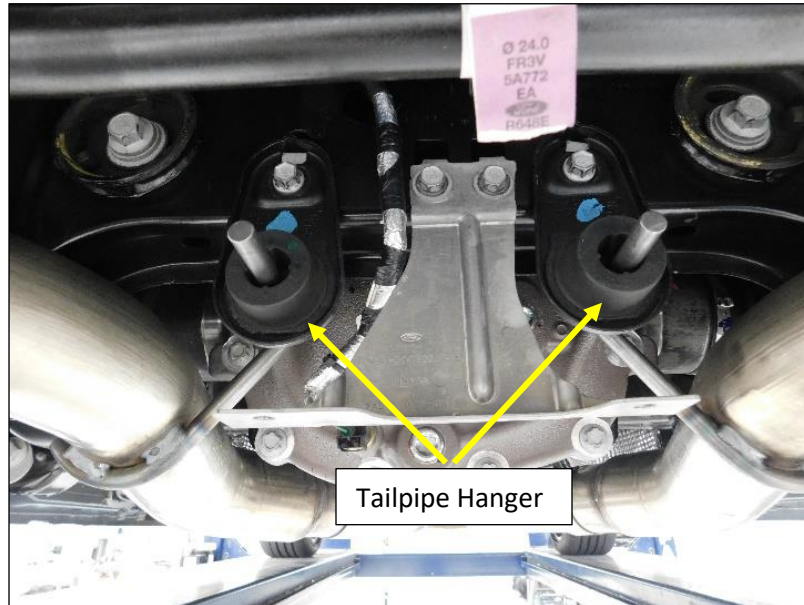

Figure 4
5. Remove the tail pipe hanger mounting bolts, but do not remove the hangers (Fig. 4).